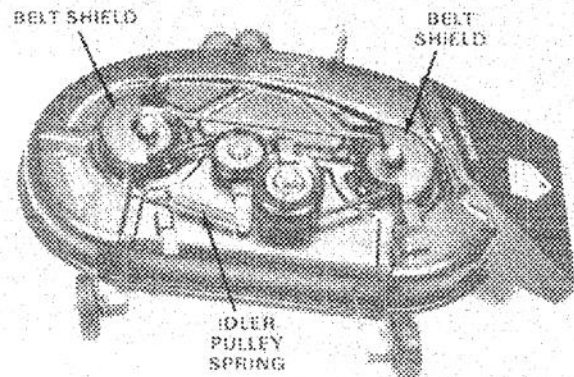

Figure 40
2. Remove the screws securing belt shields to deck and remove shields (Fig. 40).